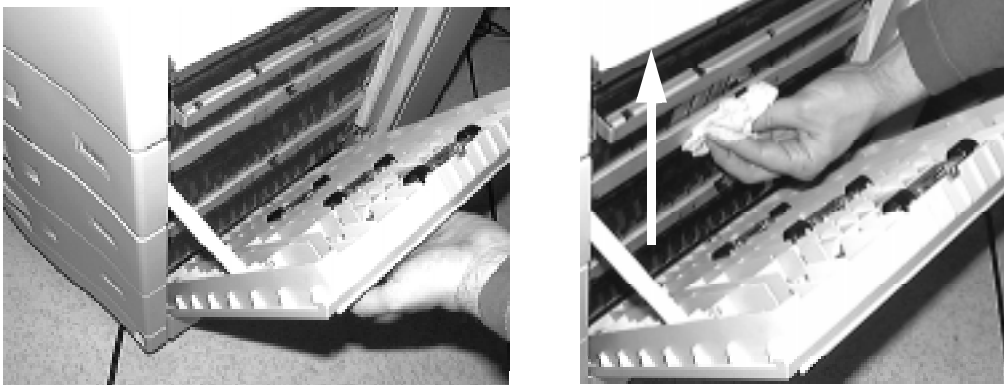

Figure 5-3 Cleaning Paper Feed Area
2. Use the supplied cleaning cloths to wipe up any toner or dust off the paper feed mechanisms in this area, on the inside area and on the cover area. Clean all the way down to the base of the printer to ensure a thorough cleaning. See Figure 5-3.